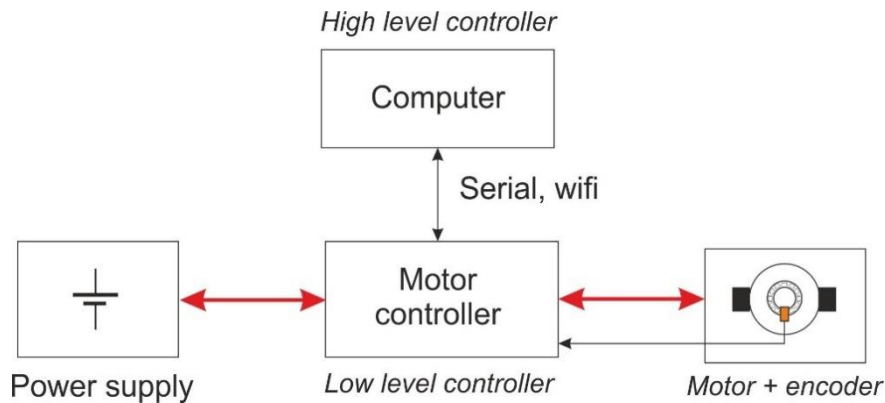
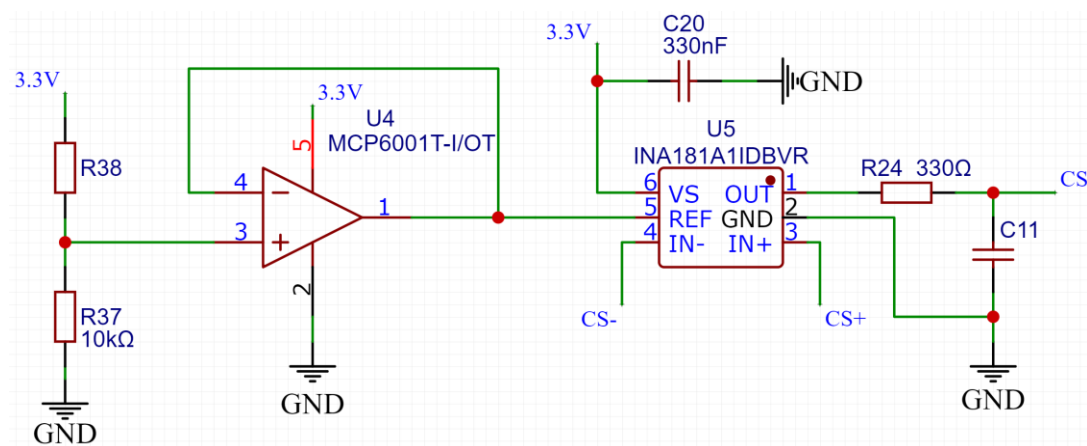

figure 1.1: Block scheme that shows the control of a DC-motor by a high level controller via a motor controller.
figure 2.3: Current sensor circuit.
In almost each robotic system you find one or more electric motors. In this course we show how to design the (electronic) hardware and embedded software of a motor controller. The motor controller is a low level electronic device that controls a motor and is fed by a power supply. The motor controller itself is often controlled by a high level controller, such as a computer or PLC (see figure 1.1).
Figure 1.1 shows the block-scheme of the electronics of the motor controller. It consists of the following blocks:
Figure 2.3 shows the current sensor circuit. The base of the current sensor is a INA181 bidirectional current-sense amplifier. This chip measures the voltage across the shunt-resistor ($R1$) that is placed in series with the motor (see figure 1.1). The left part of the circuit around opamp U7A generates a constant reference voltage V_{ref} that is needed by the INA181.
b. Find the value of R38 and the value of R1 (shunt-resistor, see figure 1.1), so that we have: